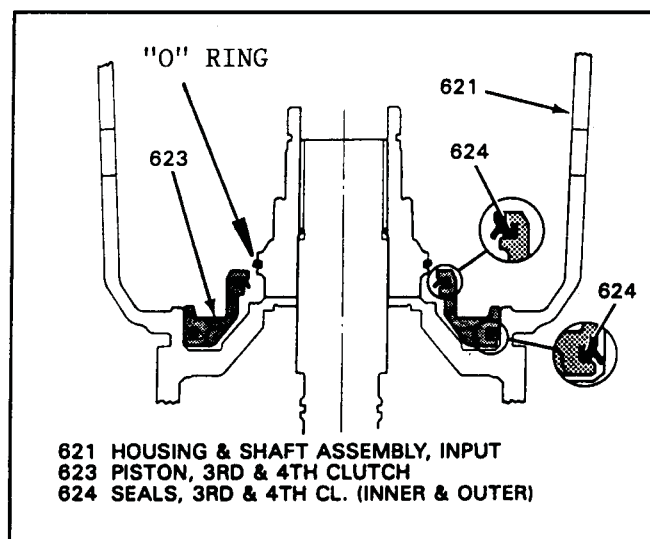

Figure 117
3. Install the inner and outer lip seals on the 3-4 clutch piston in direction shown in Figure 117, with the lips facing down.
4. Lubricate the lip seals with Trans-Jel, and install the 3-4 clutch piston into the input housing with a rotating motion, as shown in Figure 117.
5. Install a new "O" ring into the input housing groove as shown in Figure 117, and lubricate with Trans-Jel.